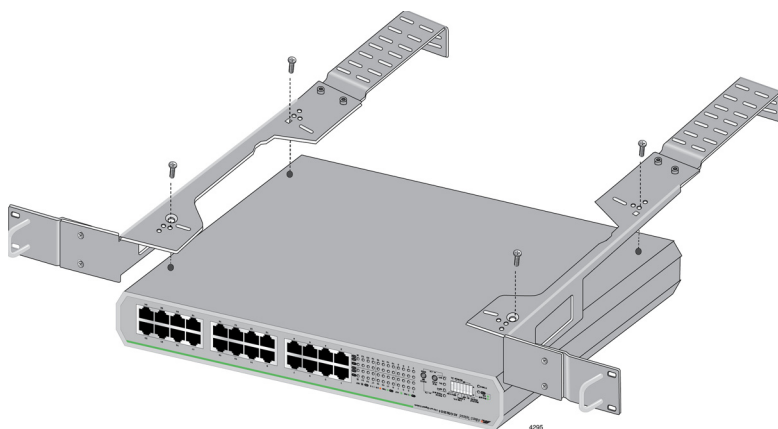

Figure 24. Attaching the Plates to the Switch
7. Attach the units in Step 5 to the switch with M3x6mm screws using a Phillip-head screw driver as shown in Figure 24.